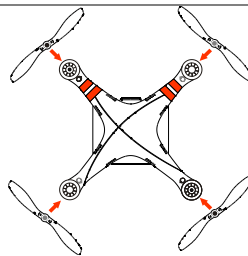

Fig.2
2. (Fig.2) Prepare two grey nut propellers and two black nut propellers. Make sure to match the black nut propellers with the correctly marked black dot motors. Tighten the propellers according to the fastening instructions (). DO NOT use any thread locker on the threads.